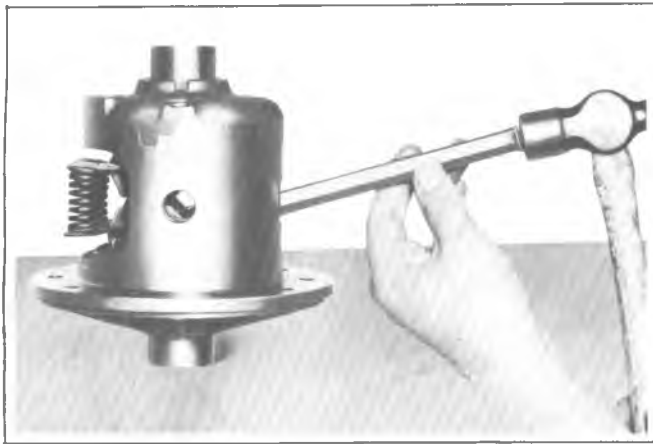
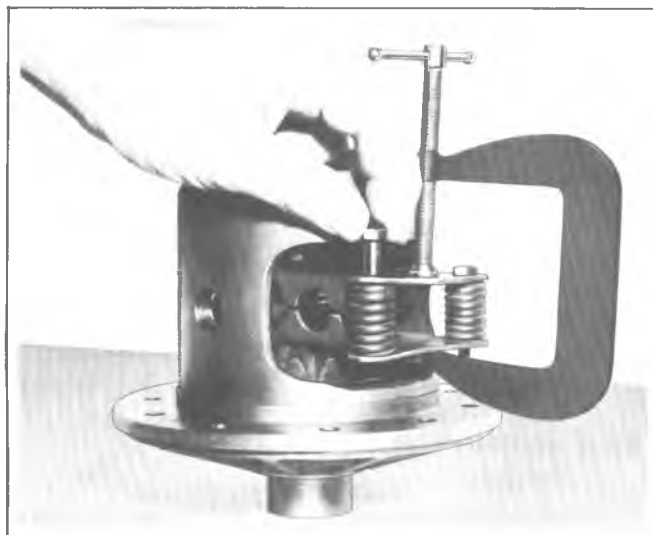

Fig. 2D--Removing Preload Spring Pack (Typical)
Fig. 3D--Installing Bolts to Retain Springs
2. **Remove the preload spring retainer and springs by tapping on the spring retainer through the observation hole in the case. See figure 2D. Drive the spring retainer from the case sufficiently to allow insertion of a 1/4 inch bolt in each of the two front springs. Secure each bolt with a nut as in figure 3D.**